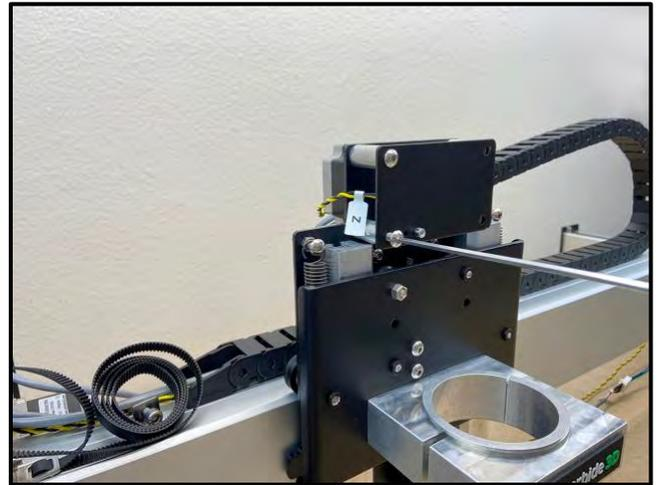

Figure 4
1. Remove the Z-Axis homing switch plate from the front of the X/Z-carriage. See **Fig. 4**.
- a. Use a 3mm hex key to remove the four (4) M5×10mm BHCS securing the plate. (No need to separate any of the switches from their mounting plates.)
- a. Use a 4mm hex key to remove the two (2) M5×35mm SHCS and two (2) 1-inch spacers.